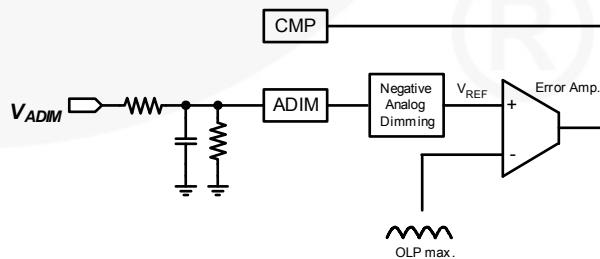

Figure 38. Analog Implementation Circuit
**Analog Dimming:** For analog dimming, the lamp intensity is controlled with the external dimming signal ( $V_{ADIM}$ ) and resistors. Figure 38 shows how to implement an analog dimming circuit.